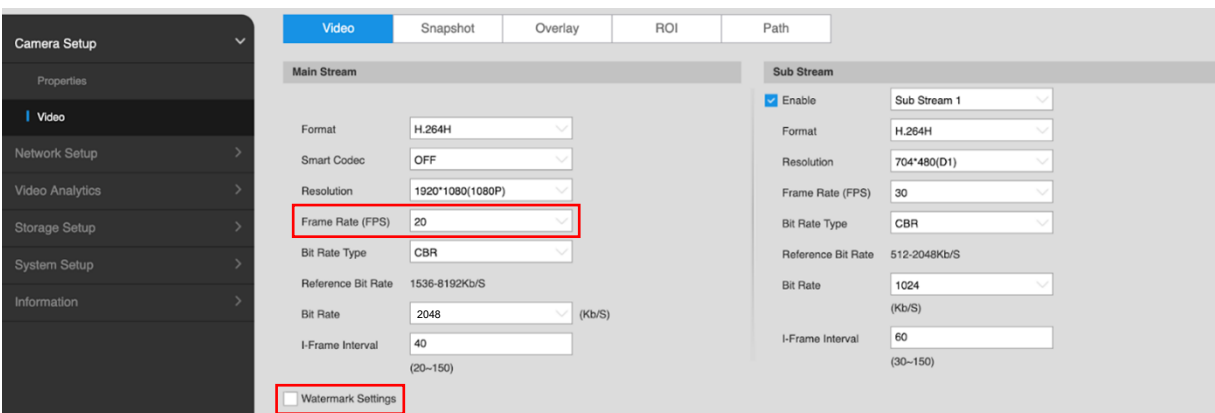

Fig. 4.10
9. Select the following parameters from the drop-down list of each field (see Fig. 4.10):